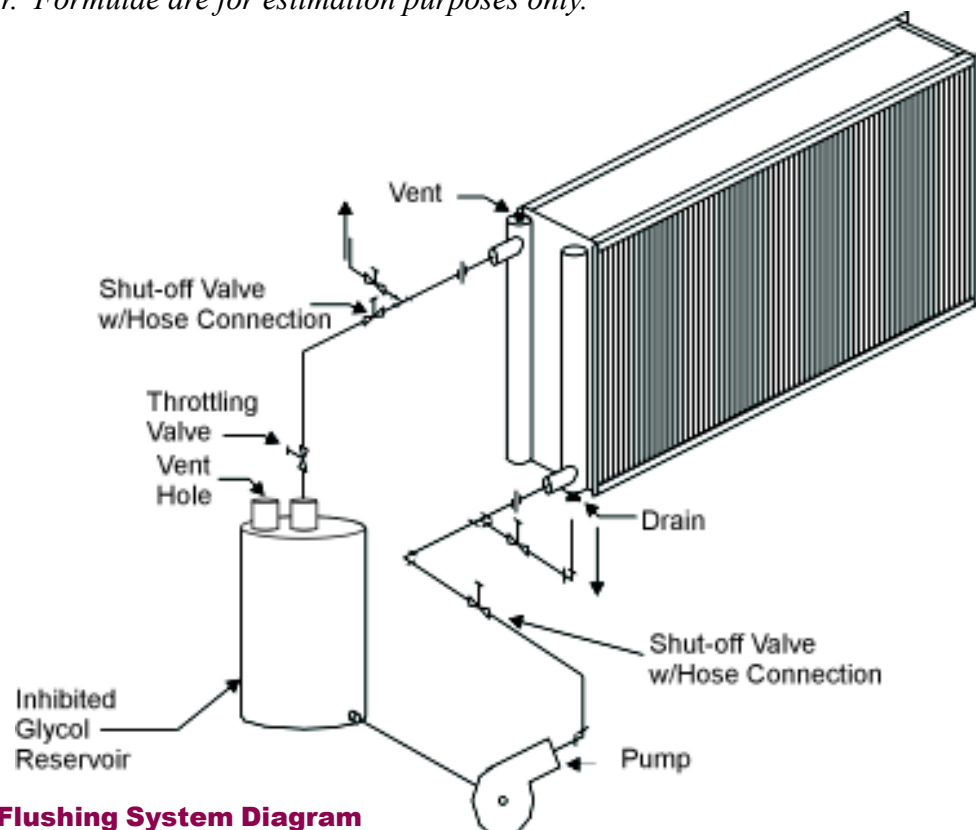

Figure 6 - Flushing System Diagram
6. Connect the flushing system to the coil. A typical system is shown in Figure 6 - Flushing System Diagram.